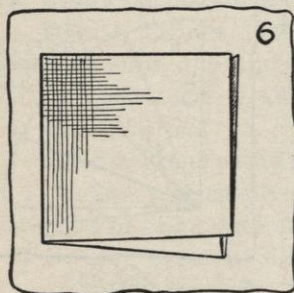

FIG. 6.
- (1) Fold your square of crinoline in half on the straight grain of the material. Then fold it in half again (see Figure 6).